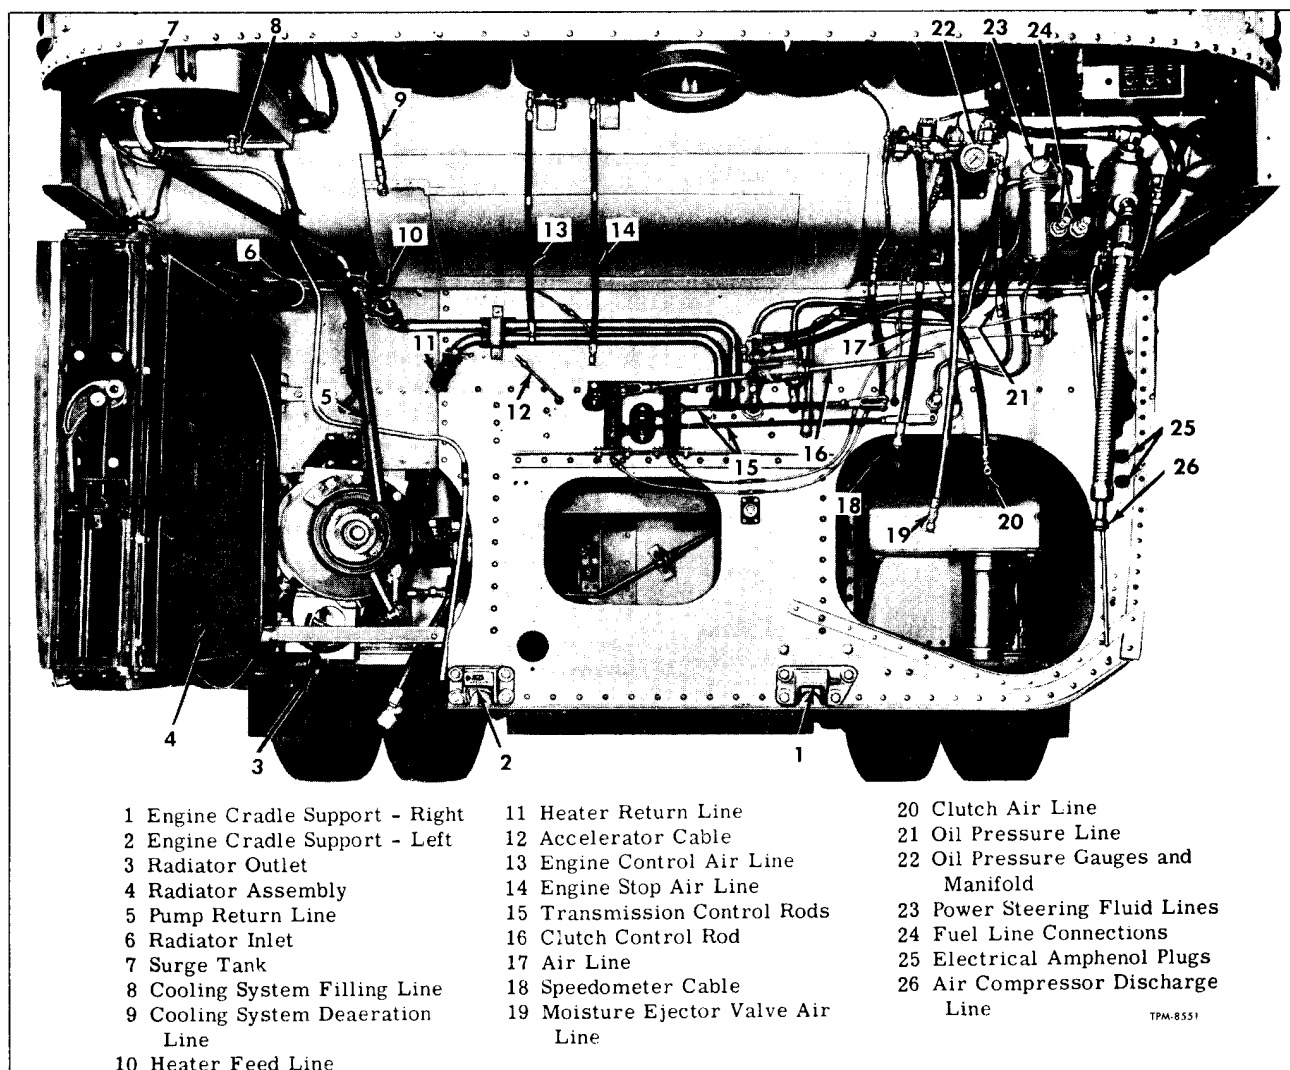

Figure 11—Engine Compartment Showing Disconnect Points
Brackets (fig. 11) at lower edge of bulkhead support the front side of cradle, while rear side is supported by two hanger assemblies suspended from support beam at rear of coach body. Instructions which follow describe method of replacing the complete power plant assembly. A special dolly must be used to support power plant at cradle, and provide a means for moving assembly out of engine compartment. Refer to figure 11 for location of various disconnect points in replacing power plant.
2. Inspect engine rear mounting assemblies and engine stabilizer rods (fig. 11). If mountings are oil-soaked or show evidence of failure, replace mountings.